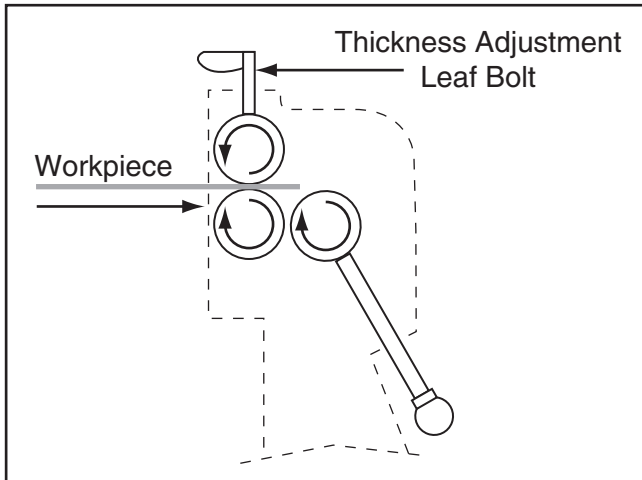

Figure 19. Top roller adjusted to the thickness of the workpiece.
2. Loosen the thickness adjustment leaf bolts until you can insert the workpiece between the upper and lower rollers, then evenly snug down the leaf bolts until you feel resistance and the workpiece is firmly held between the rollers, as illustrated in **Figure 19**.